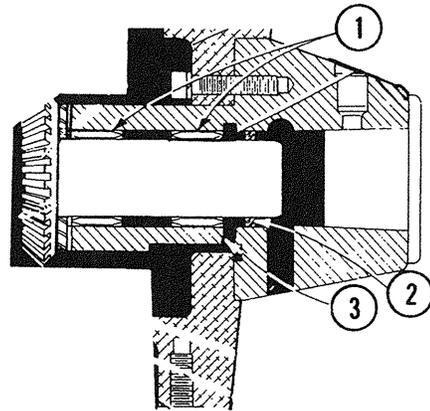

Fig. 4-8
- L. Before installing the hub assembly inspect the needle bearings (1, Fig. 4-8) and shaft seal (2, Fig. 4-8).
- O. When replacing the bearings make sure that they are properly spaced. Press the inside bearing flush with the inside end of the hub casting. Press the second bearing in just far enough to pass the oil drain hole (3, Fig. 4-8).
- P. Always use a new seal. A special Hobart Tool No. 55460-3 is available for easy installation of seals. Use of this tool permits a second or third seal to be used when required. Do not use more than three seals as oil hole (3, Fig. 4-8) must be left open.